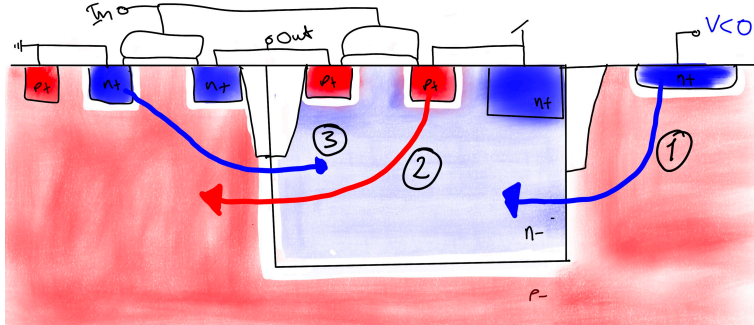

Figure 16: Cross section of an inverter
Consider the cross section of the inverter in Figure 16. The latch-up process starts with electron injection (1), then forward bias of PMOS source/drain junction (2), forward bias of NMOS source/drain junction (3), and finally positive feedback.